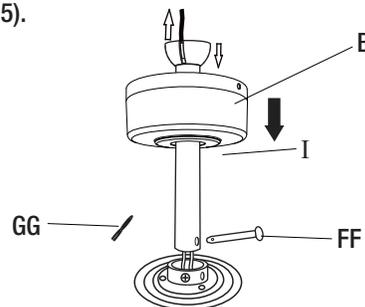

Figure 5
- Place the downrod assembly (I) through the ceiling canopy (B). Insert the motor wires through the downrod assembly (I) (Figure 5).